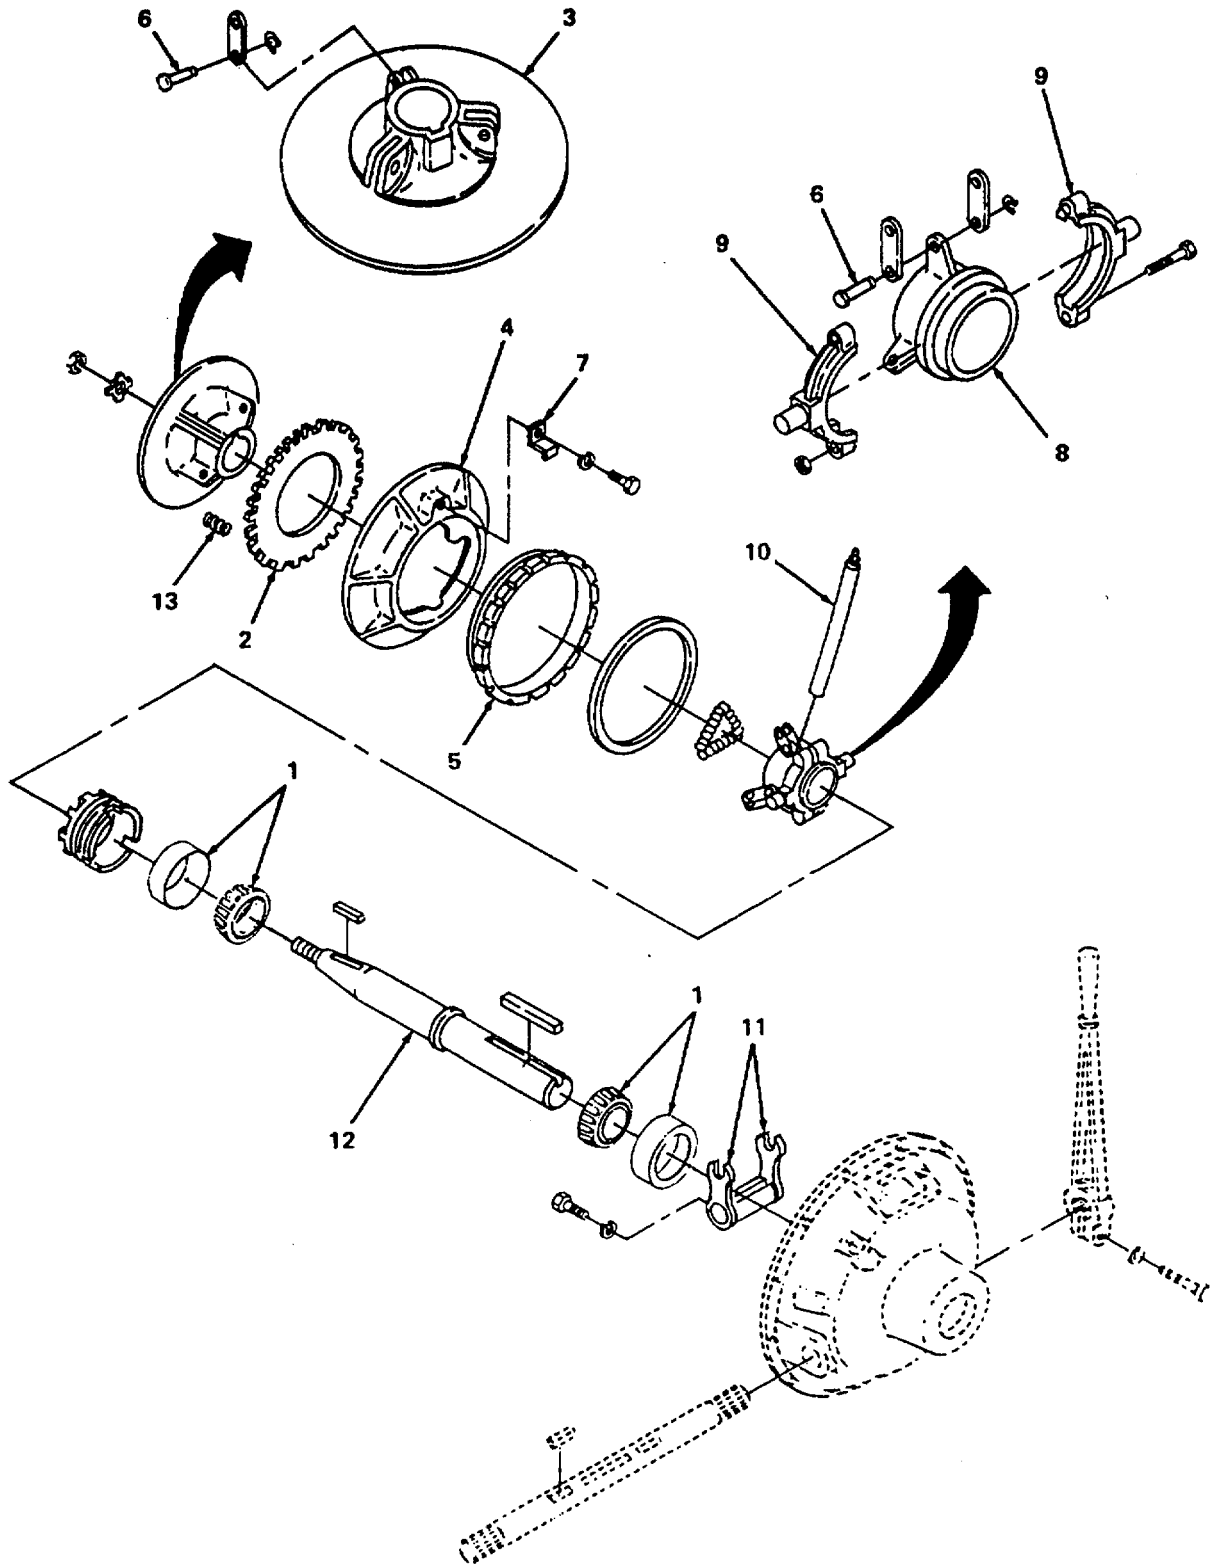

Figure 6-6. PTO/Clutch Inspection.
- (1) Wash all parts, except clutch facings, in solvent and then blow dry.
- (2) Inspect ball and roller bearing assemblies (1, figure 6-6) for corrosion or pitting. Manually rotate bearings and replace any that show roughness or sticking in operation.
- (3) Inspect driving teeth for wear and damage. Replace any clutch facing (2) that is badly scarred, burned, or worn to less than 5/16 inch thick.
- (4) Examine clutch body (3) and pressure plate (4) for excessive wear around bosses, keyways, and notches. Friction surfaces must be smooth, flat, and free from cracks and heat checks.
- (5) Inspect inner face and threads of adjusting ring (5) for wear and damage.
- (6) Inspect all grooved pins (6) and corresponding mounting holes for wear. Replace parts that show excessive wear in pin holes.
- (7) Inspect adjusting ring lock (7) for worn fingers or weak tension.
- (8) Inspect mating surfaces of release sleeve (8) and collar (9) for excessive wear. Replace parts showing excessive wear.